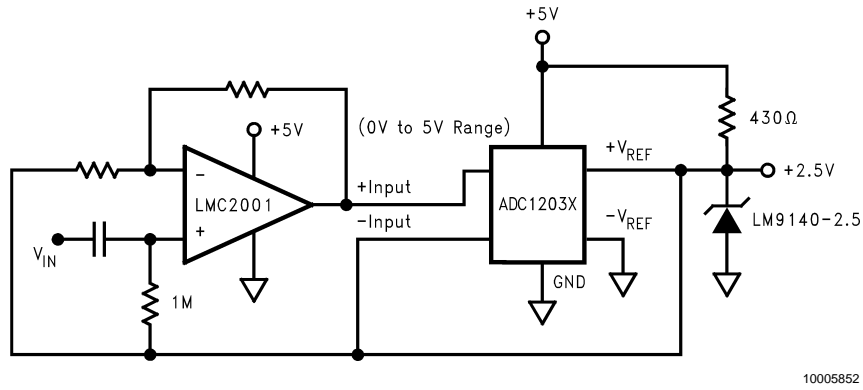

FIGURE 7.
The LMC2001 is a great choice for an amplifier stage immediately before the input of an A/D converter (AC or DC coupled) see Figure 7 and Figure 8 because of the following important characteristics:
- Rail-to-Rail output swing maximized the ADC dynamic range in 5V single supply converter applications. Below are some typical block diagrams showing the LMC2001 used as an ADC amplifier (Figure 7 and Figure 8).